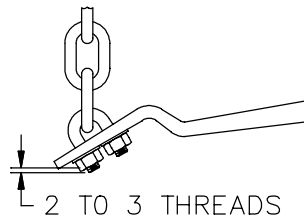

FIGURE 4
- Attach chains (7a) to spring bars (3) using u-bolts (7b), flatwashers (7d) and locknuts (7c) [See figure 1]. Allow 2 - 3 threads to protrude below locknut [See figure 4]. Chain must not bind.
- Apply a heavy oil or grease (such as Draw-Tite Hitch Ball Lubricant P/N 6939) to the upper grooved end of each spring bar (3) on top surface and on vertical portion above bend.
- Line up spring bars (3) parallel to trailer frame. Insert them into head sockets and push upward. A "click" will be heard when the retaining pin (2b) engages the spring bar groove.